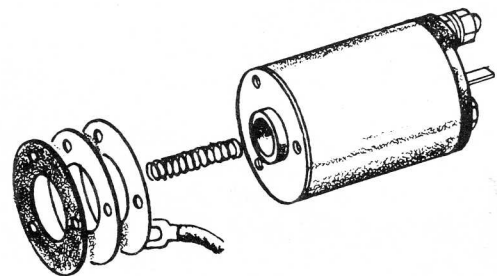

FIGURE 31 Adjusting Pinion Clearance
2. To adjust pinion clearance, connect the battery to the starting motor as shown. This will allow the pinion of the starting motor to slide and stop. In this state, measure the clearance between the end of the pinion and pinion stop when the pinion is pushed lightly toward the commutator end. Clearance should be .02" to .06" (0.5 to 1.5 mm). Adjust for proper clearance by removing the magnetic switch attaching screws and select the proper thickness of the fiber packings shown in Figure 31.